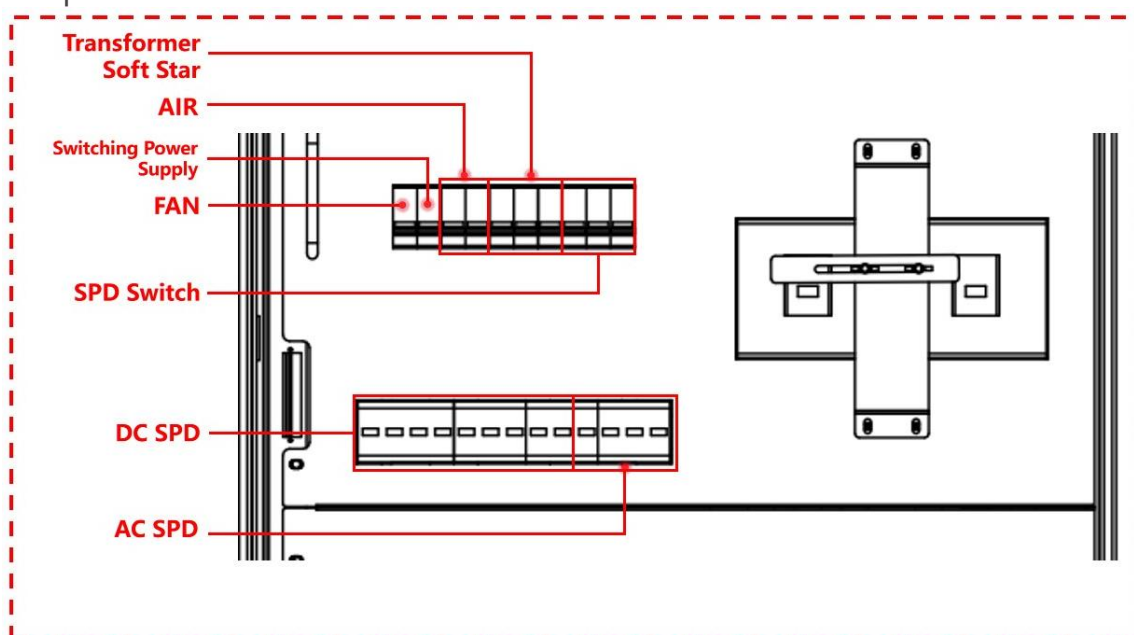

Figure 5.5
- Step 2:** Refer to Figure 5.5, disconnect the system air conditioning switch, auxiliary power switch, and battery auxiliary power switch.
Step 2: Refer to Figure 5.5, disconnect all auxiliary power switches, AC/DC molded-case switches, and battery DC load switches of the system.
1. System Power-On Sequence: Begin by verifying that the main unit is ready for power-up, As per Figure 5.5, activate the transformer soft-start switch and the auxiliary power switch. Next, activate the mains power switch to finalize the transformer soft-start.